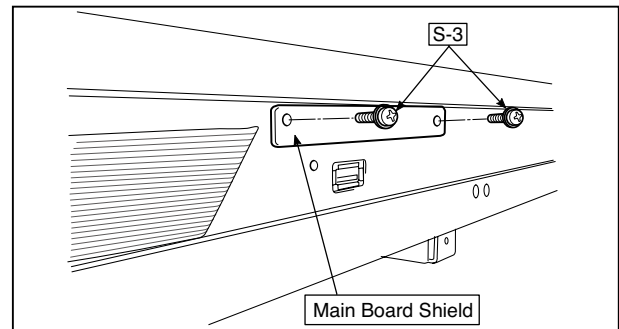

Fig.12
- 2.Remove the "S-3" screws shown in the figure 12 and then remove the Main Board Shield.